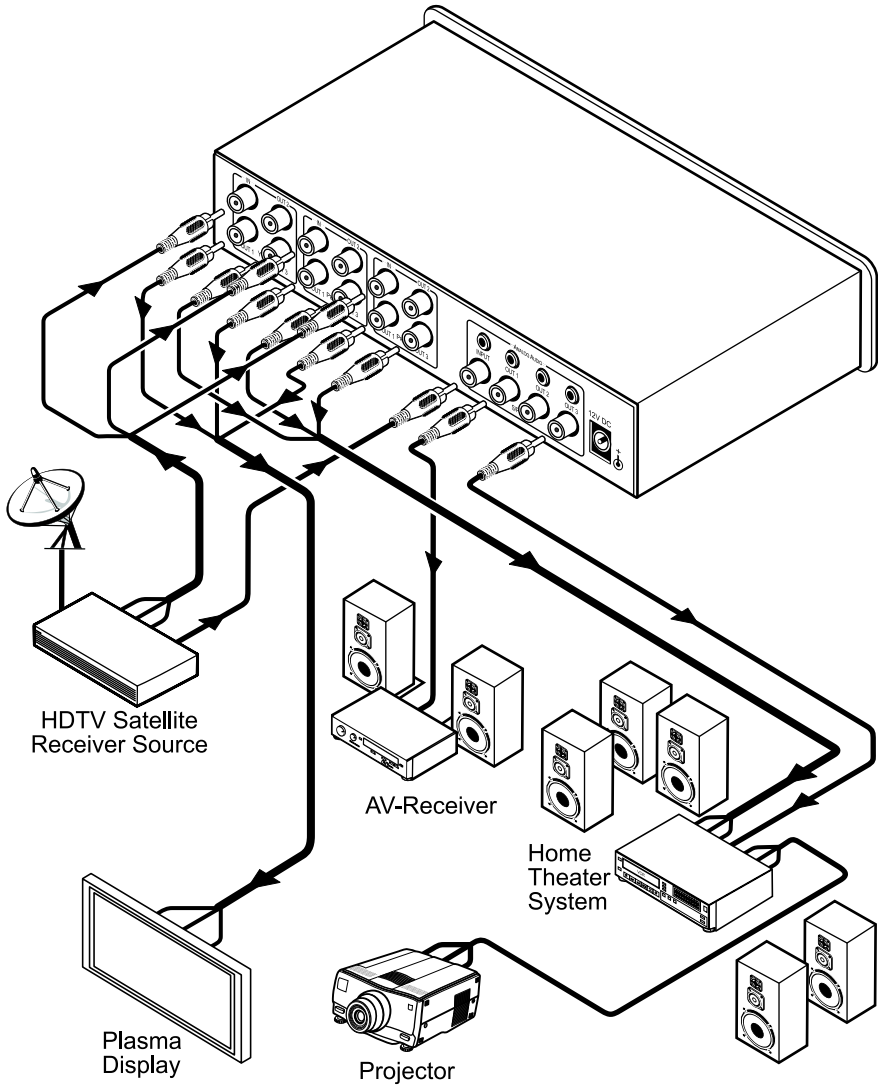

Figure 2: Connecting the VM-30CA 1:3 Video Component / Audio Distributor
To connect a **VM-30CA** unit as the example in Figure 2 illustrates, do the following¹:
3. Connect a 12V DC power adapter to the power socket and connect the adapter to the mains electricity (not shown in Figure 2).
3 Alternatively, connect the ANALOG AUDIO 3.5m socket (not shown in Figure 2)